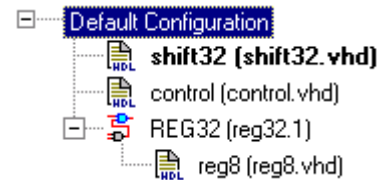

Figure 18 - reg32 design hierarchy in Libero IDE
10. When completed, the hierarchy of the reg32 design will appear as shown in Figure 18 on the Libero IDE Design Hierarchy tab.